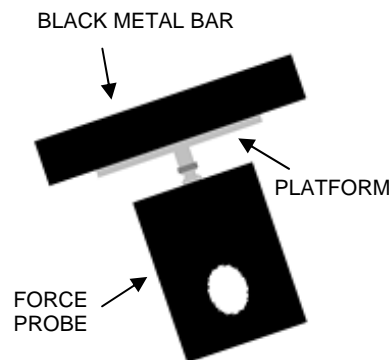

FIGURE 2 –
**F)** With the bar still on the platform, lift the probe off of the table and, as you watch the reading on the computer, tilt the probe. **See Figure 2.**